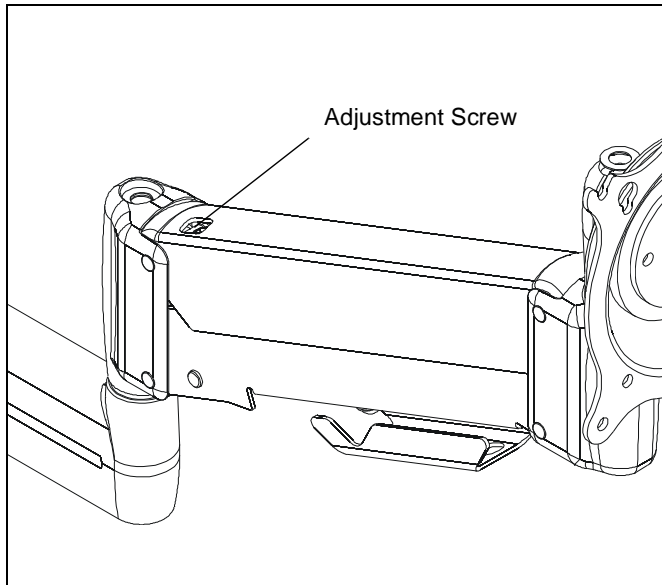

Figure 57
- Using 5/32" hex key, slightly loosen or tighten the adjustment screw as necessary. (See Figure 57)